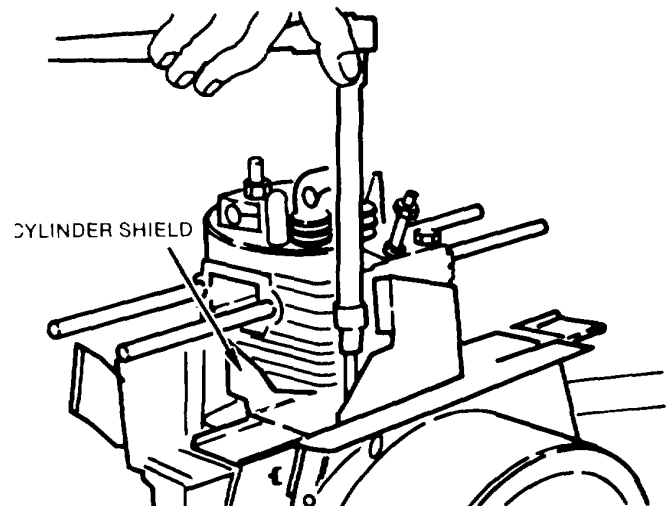

Figure A-53. Cylinder Shield, Air Guides
l. Cylinder Shield, Air Guides. Install both halves of the cylinder shield. Do not, at this time, install the single bolt which connects the shield halves. Install the two air guide plates on the top of the crankcase. (Figure A-53.)